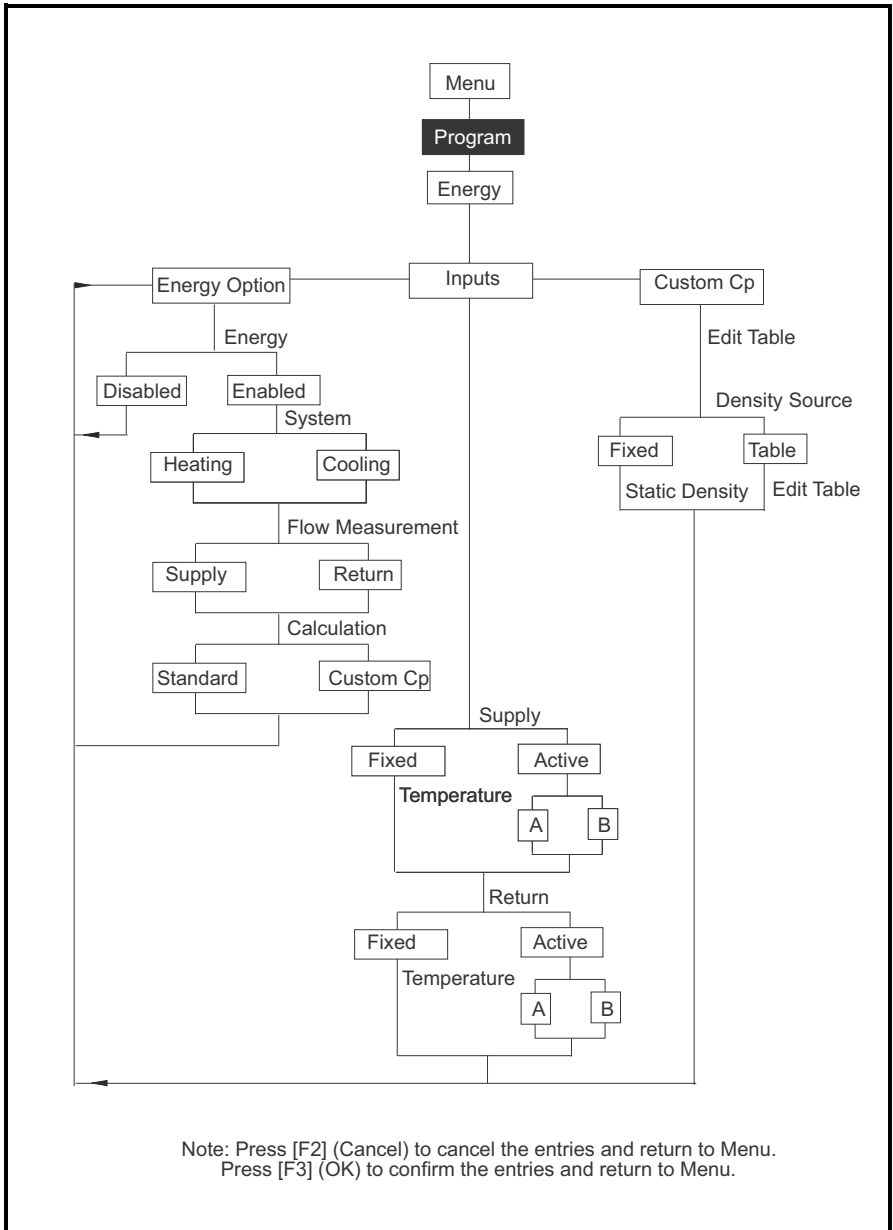

Figure 147: Energy Option
- Energy Option - Figure 147 on page 231